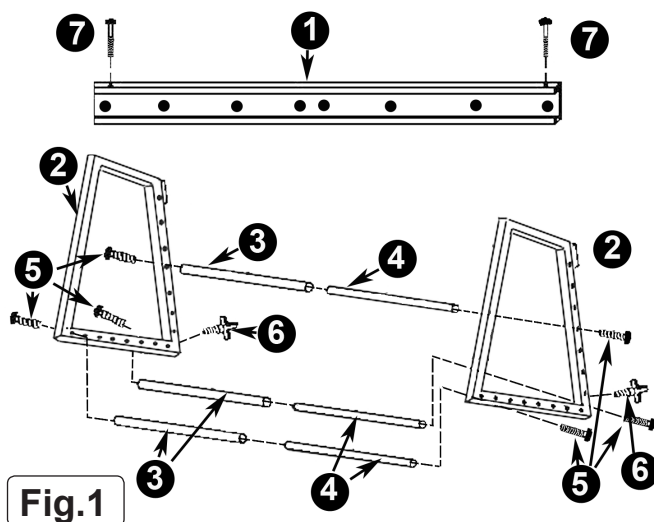

Fig.1
Carefully unpack the product and check the contents as detailed in Fig.1. Should any items be missing or damaged contact your Sealey stockist.
4.1 Assembling the frame (refer to fig.1).